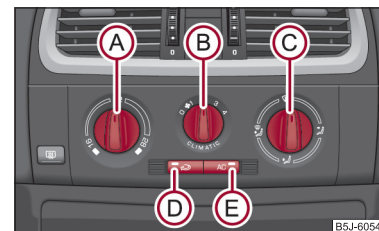

Fig. 91 Climatic: Control elements
- Press the button ⇒ page 83, fig. 91, the warning light lights up in the button.
The recirculated air mode is switched off automatically if the air distribution control is in position ⇒ page 83, fig. 91. You can also switch recirculated air mode on again from this setting by repeatedly pressing button .
The air conditioning system operates when switch  ⇒ page 83, fig. 91  is pressed and the following conditions are met:
- Turn the control dial  $\Rightarrow$ fig. 91 to the right in order to increase the temperature.
- Press the button   $\Rightarrow$ fig. 91. The warning light lights up in the button.